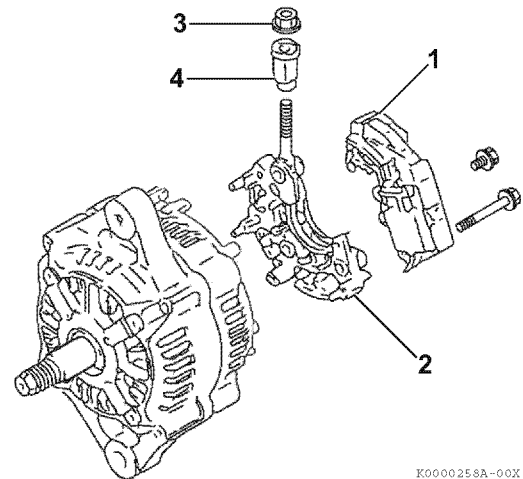

Figure 11-16
6. Install the insulation bushing (**Figure 11-16, (4)**) and nut (**Figure 11-16, (3)**).
7. Assemble the regulator assembly (**Figure 11-16, (1)**) to the holder (**Figure 11-16, (2)**).